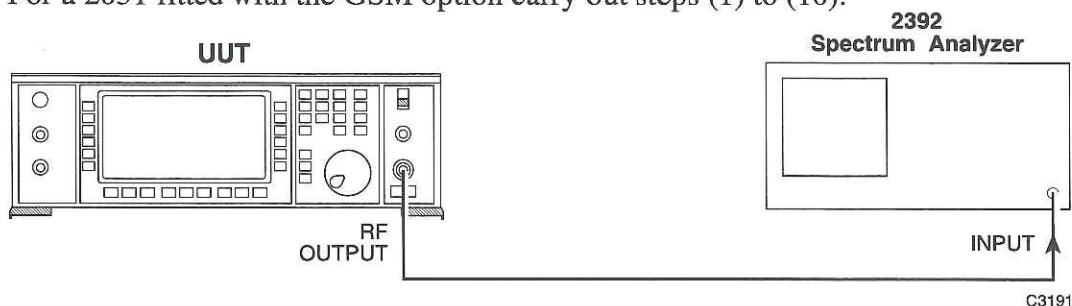

Fig. A-3 GMSK adjustment test set-up
- (1) Connect the test equipment as shown in Fig. A-3.
- (2) It is necessary to obtain a set a reference levels for the spectrum analyzer. This is done by the following procedure: